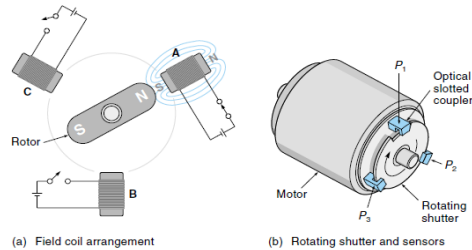

Figure 3.6 Brushless DC motor
- Figure 3.6(a) shows a diagram of a three phase BLDC. The armature (called the rotor) is a permanent magnet, and it is surrounded by three field coils.
- When a coil is on, such as coil A in Figure 3.6(a), the north pole of the rotor magnet is attracted to that coil.
- Figure 3.6(b) shows the 3 phase BLDC with 3 optical slotted couplers and a rotating shutter (Hall effect sensors can also be used for this application).
- When the shutter is open for sensor P_1 as shown, field coil A [Figure 3.6(a)] is energized.